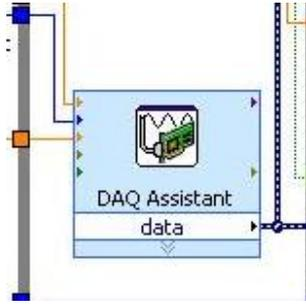
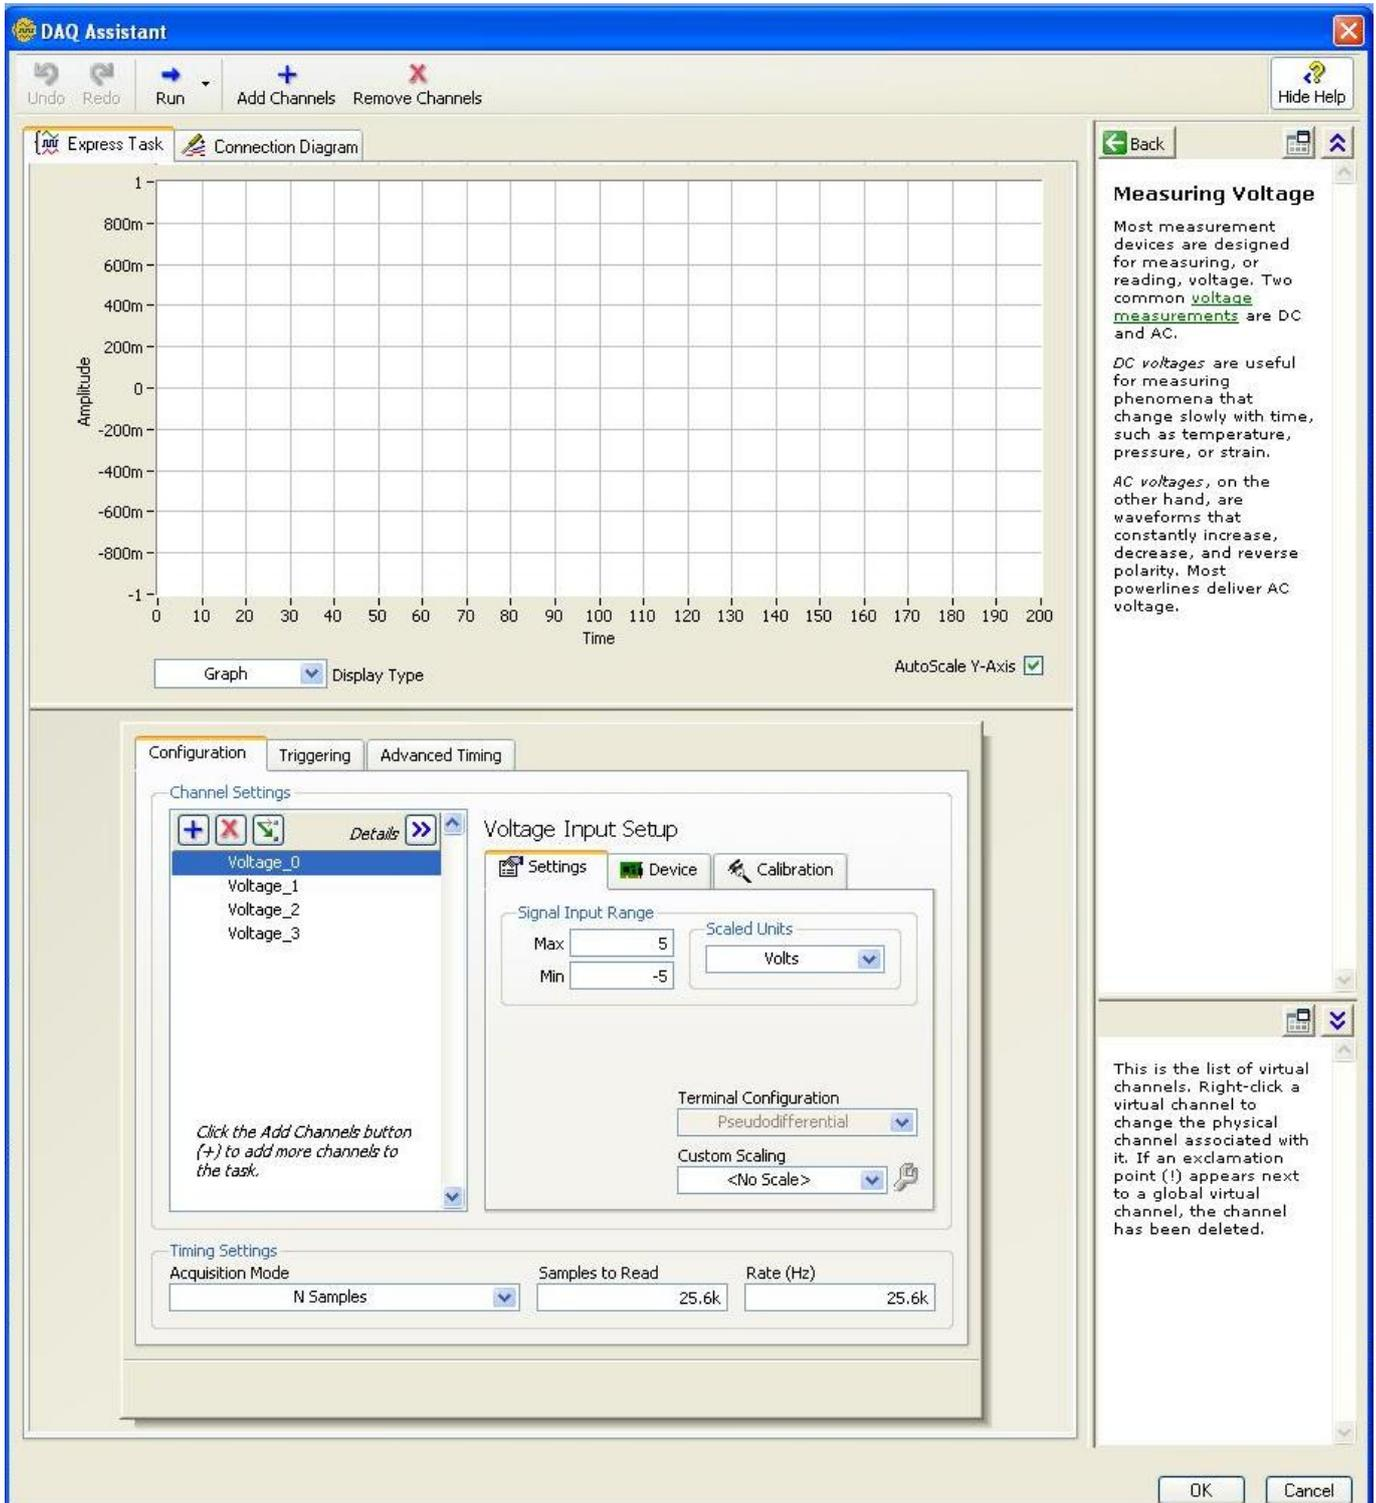

Figure 1: DAQ Assistant icon on block diagram
Figure 2: DAQ Assistant configuration window
- The Vib4Ch_decimate.vi program should be set up correctly for the hardware to be used. To check this, the vi should be opened by double clicking on it in Windows Explorer or by starting LABVIEW and then opening it as a vi. Once the front panel is displayed, the block diagram can be obtained by clicking anywhere in the front panel and then pressing Ctrl-E. (Ctrl-E toggles between the vi front panel and its block diagram.) In the block diagram double click on the DAQ Assistant (see figure 1). This will open a configuration window as shown in figure 2. In this window, “Voltage_0” refers to the 1st analogue input channel and “Voltage_3” to the 4th, etc. Check that the settings listed under the “Settings” tab is correct for all four channels by selecting them one-by-one by clicking on the channel in the list. (After selection the channel is highlighted in blue, as is the first channel in figure 2.) Also check the AC/DC coupling mode for each channel, under the “Device” tab.
Back on the main configuration window of the DAQ Assistant (figure 2): it is not necessary to set the “Timing settings” at the bottom (“Acquisition Mode”, “Samples to Read” and “Rate”). These parameters are set by the program. Once everything in the DAQ assistant configuration window has been set up correctly, click the OK button at the bottom right to close this window and to configure the DAQ assistant (or “Cancel” if nothing has been changed).